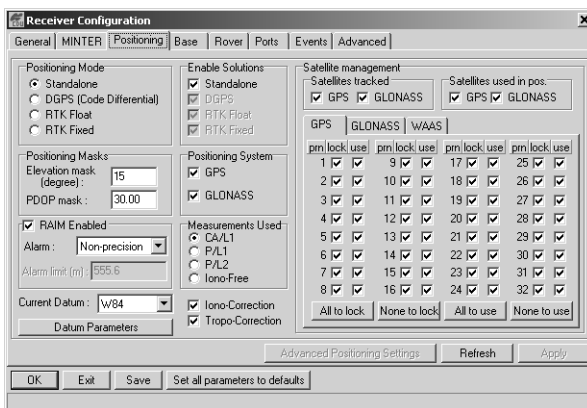

Figure 3-8. Receiver Configuration – Positioning
- Select the **Positioning** tab and set the Position Masks, Elevation mask parameter to 15 (Figure 3-8).
4. Select the **Positioning** tab and set the Position Masks, Elevation mask (degrees) parameter to 15 (Figure 3-8 on page 3-14).